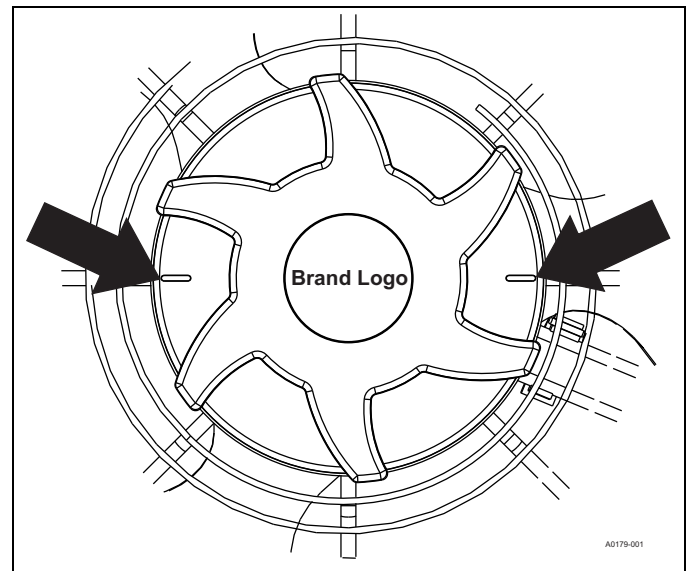

FIGURE 2: Top Cap Installation/Removal
2. Align the round top cap label brand name with the flat markings near the top cap edge and apply firmly to the top cap. Refer to Figure 2.
4. Align the two top marks on the top cap with any set of the fan grill rods. Refer to Figure 2.